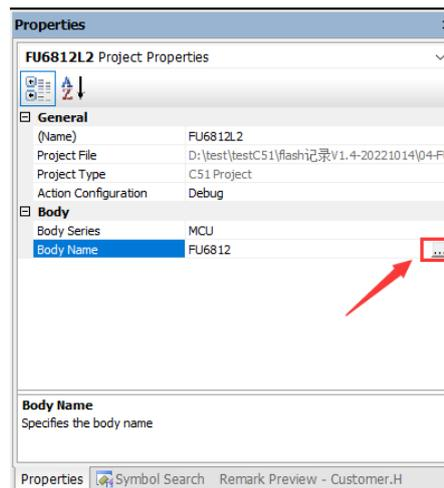

Figure 1-48
- Body: as shown in Figure 1-48